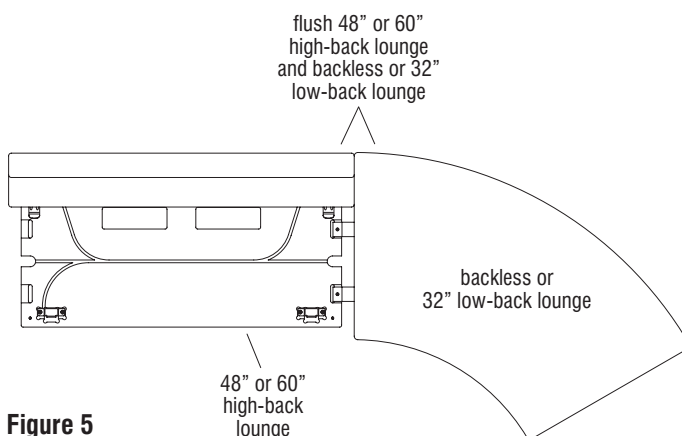

Figure 5
7. Confirm that the backs of both lounges are flush. Align the gangers straight and secure to the high-back lounge using one #10 x 3/4" Phillips flat head screw per ganger (Figure 5 & Detail G).